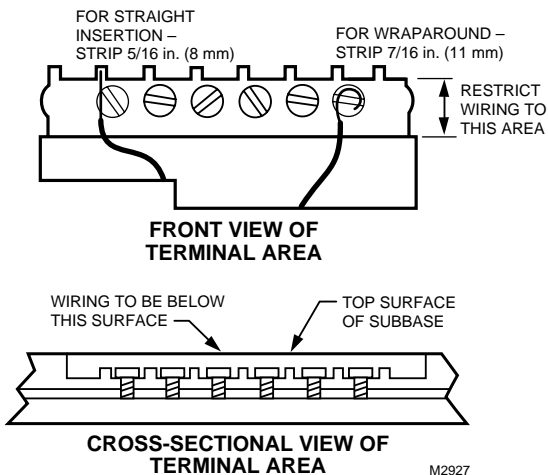

Fig. 3. Keep wiring restricted to the ribbed area surrounding terminals.
- Keep all wiring restricted to the ribbed area surrounding the terminals (Fig. 3) to assure thermostat/wallplate contact.